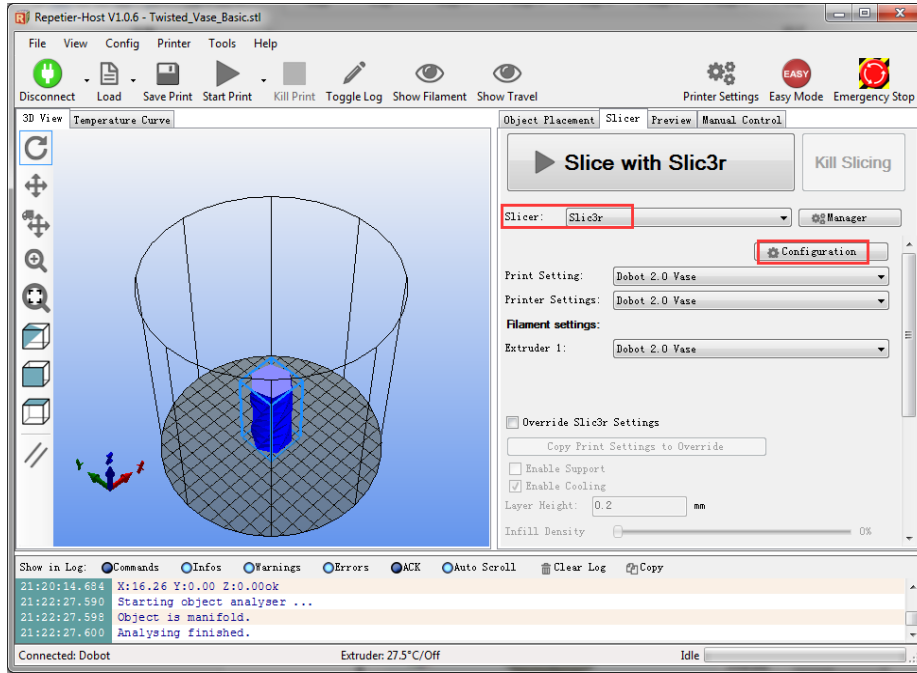

Figure 5.98 Select slicer
1. Select **Slic3r** from **Slicer** on the **Slicer** tab of the **Repetier Host** page, and click **Configuration**, as shown in Figure 5.98.